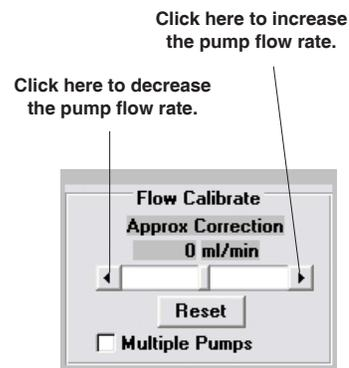

Figure 6. Flow Calibrate
- B. Flow Calibrate (see Figure 6)
The Flow Calibrate buttons (Figure 6) allow calibration of the flow rate displayed on the pump LCD to the flow rate displayed on a primary standard calibrator.